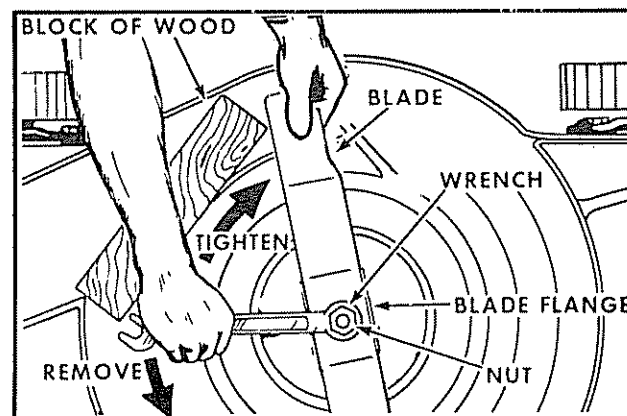

FIG. 18
1. To remove the blade and blade flange, turn mower on its side with carburetor and air filter up (See Fig. 18).
2. Take blade nut off by turning counter-clockwise. Use a $15/16$ " box or open end wrench on the blade nut (See Fig. 18).